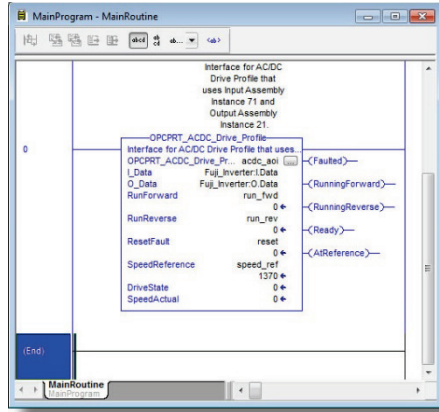

Figure 65: Configure AC/DC Drive Profile AOI
- 10) Edit the add-on instruction according to Figure 65.